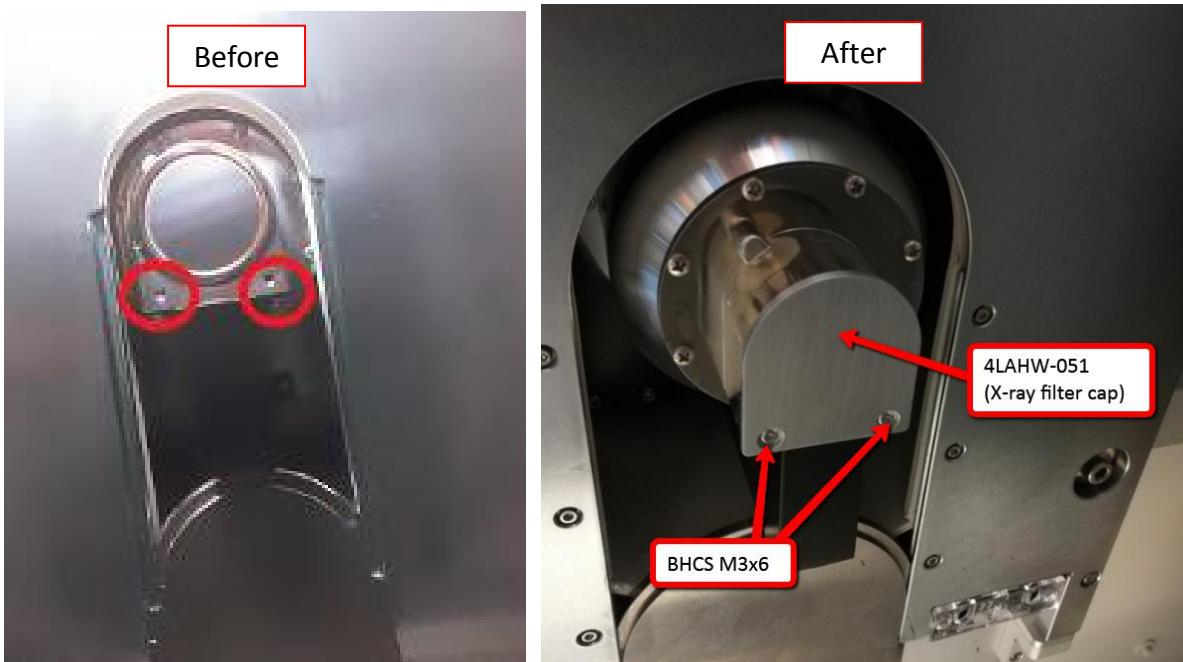

Figure 3 X-ray tube bottom view (before & after filter cap installation)
4. Assemble 4LAHW-051 (X-Ray Filter Cap) & 2 x button head cap screws (M3x6) as shown in Figure 3.